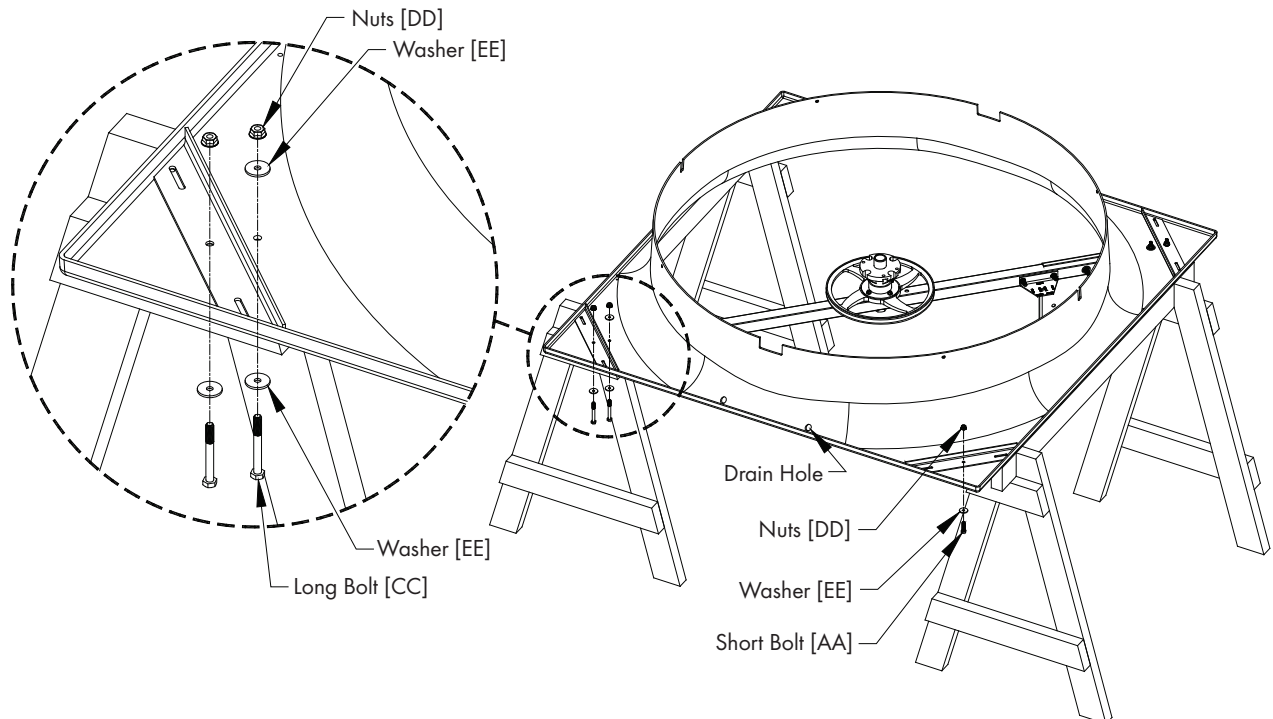

Figure 6
Corners of Orifice Panel with 2 holes are corners where Strut Assembly attaches. Secure Strut Assembly using (4) Long Bolts [CC], (6) Washers [EE] and (4) Nuts [DD]. In the opposite corners attach Cone/Strut Mounting Bracket to the orifice using (1) Short Bolt [AA], Washer [EE] and Nut [DD]. *See Figure 6.*